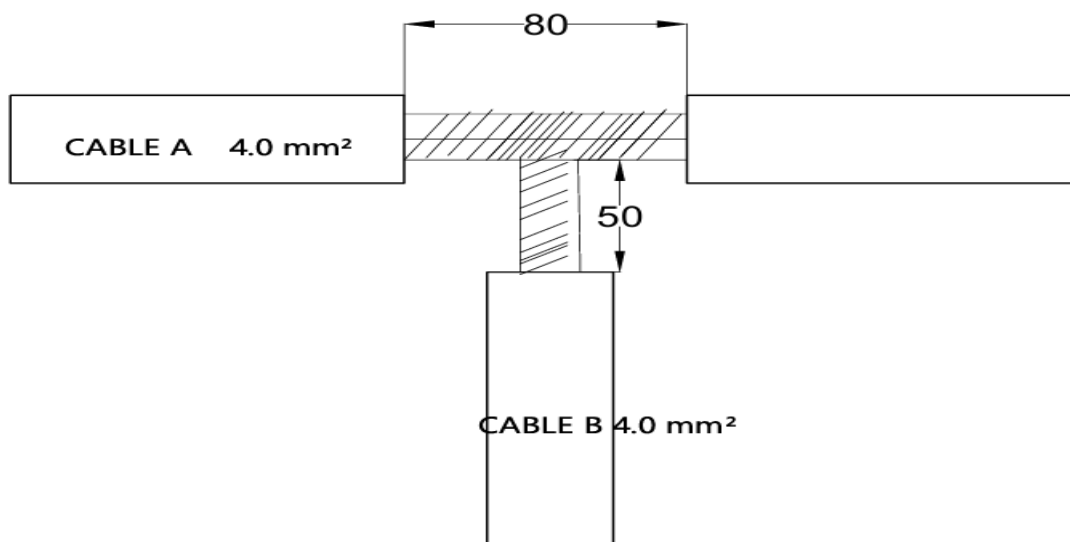

Figure 1
- iii. Fabricate, solder, and insulate a Tee joint using a 4.0 mm^2 cable as shown in figure 1.